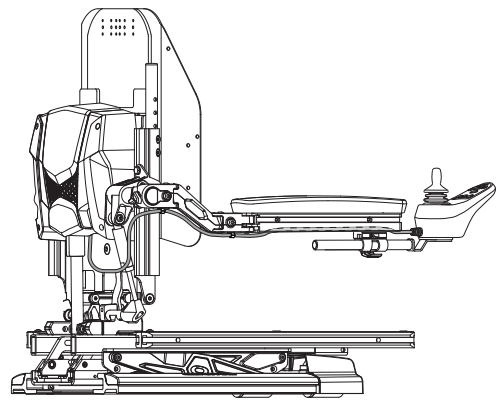

Figure 6. Controller Harness Routing on a TRU-Balance® 3
4. Install the controller and route the harness to the back of the power base. See figure 6, 7, 8, or 9.
6. Secure the controller harness to the armrest receiver with wire ties. **See figure 6, 7, or 8.**